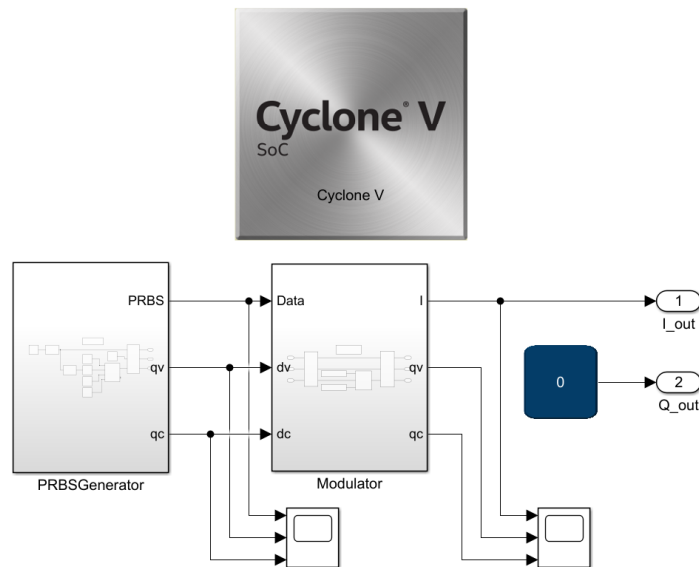

Figure 10: View of the TransmitterBPSK subsystem.
- Go back up to the top-level *TransmitterBPSK* subsystem and add two *Scopes* from the **Simulink/Sinks** library to the design and change the number of input ports of both of them to three, by right-clicking on each *Scope* and selecting **Signals & Ports** → **Number of Input Ports** → **3**. Open the *Scopes* and change the layout of the waveform window by selecting **View** → **Layout...** and choosing a suitable version, e.g. 3×1 . Finally, connect all blocks and ports together as shown in Fig. 10.